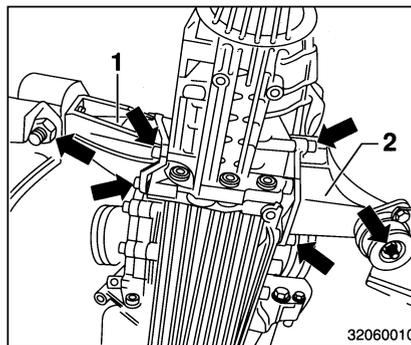

Figure 1 Right-hand and left-hand gearbox supports 1 Left-hand gearbox support - 2 Right-hand gearbox support
- Remove right-hand gearbox support (Figure 1/2).
- Remove left-hand gearbox support (Figure 1/1) and mount.